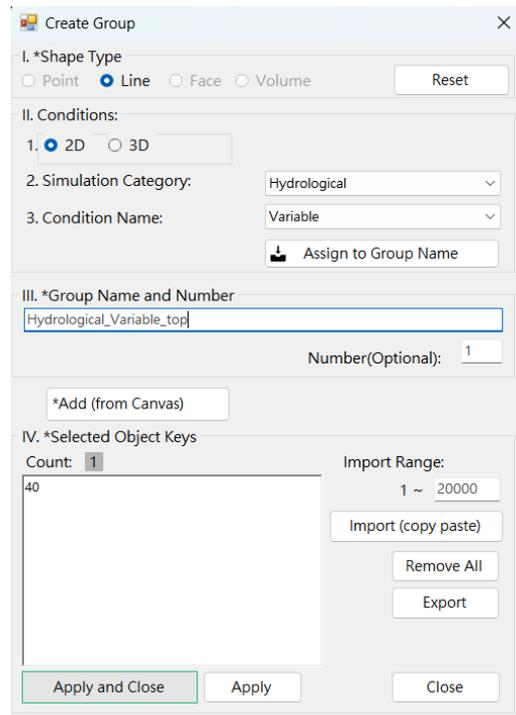

Figure 1.28. Create Group window for setting variable boundary condition.
28. As seen in Figure 1.28, 'I. *Shape Type' has 'Line' selected. For '2. Simulation Category:', choose 'Hydrological'. Then, for '3. Condition Name:', select 'Variable'. Click on 'Assign to Group Name', and type 'top' under 'III. *Group Name and Number'. Finally, click on 'Apply and Close'. Thus, the variable boundary condition setting for the top boundary side is completed.